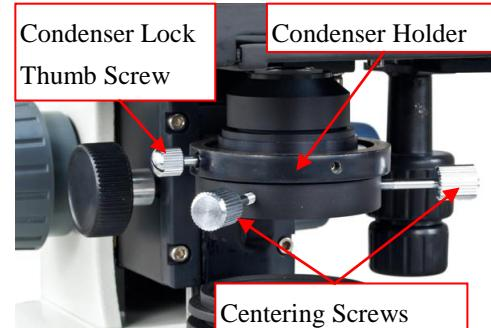

Fig. 8
- Loosen the condenser lock thumb screw, pull down the condenser and take it off, insert the dry darkfield condenser in, and tighten the condenser lock thumb screw (See **Fig. 8**).